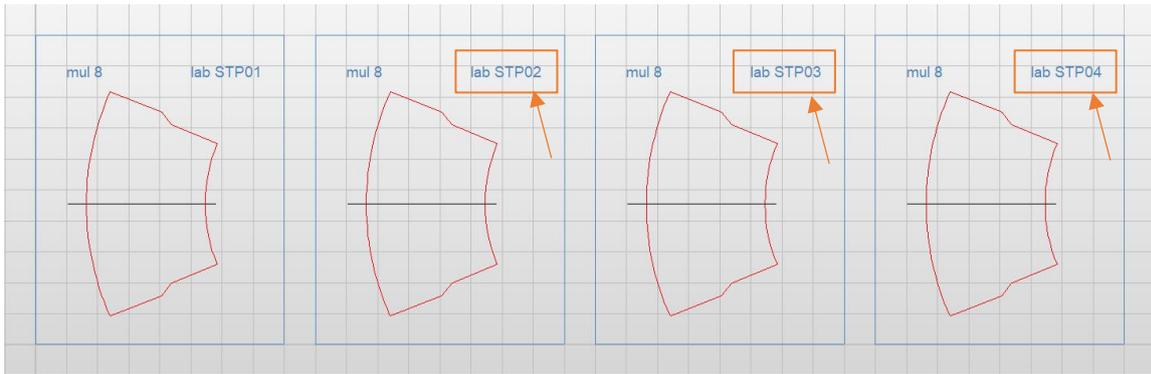

Figure 73
d. Repeat these steps with STP03 and STP04 (Figure 73).